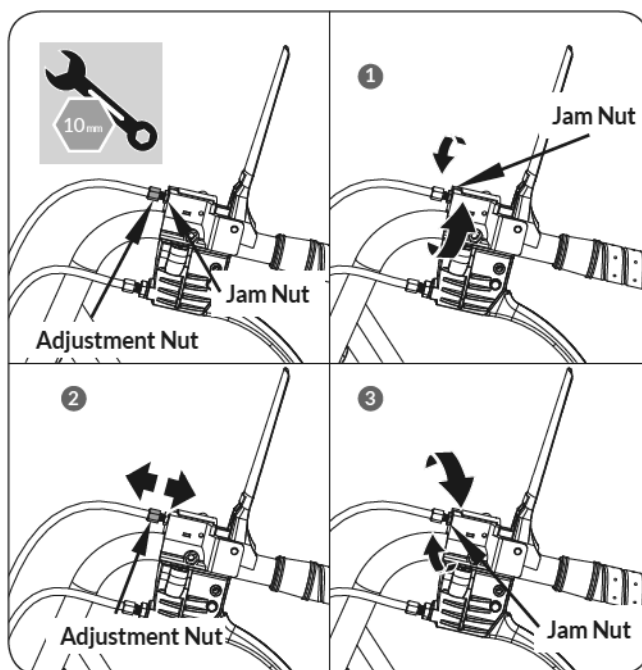

Figure 4
2. Tighten or loosen the cable by turning the cable adjustment nut clockwise or counter clockwise with 10mm wrench until you have reached your required tightness. (See **Figure 4, Illustration 2**)
3. Once tightness is set, return the jam nut against the handle to hold the cable in place. (See **Figure 4, Illustration 3**)
1. Loosen the jam nut by turning it counter clockwise with 10mm wrench. (see **Figure 4, Illustration 1**)